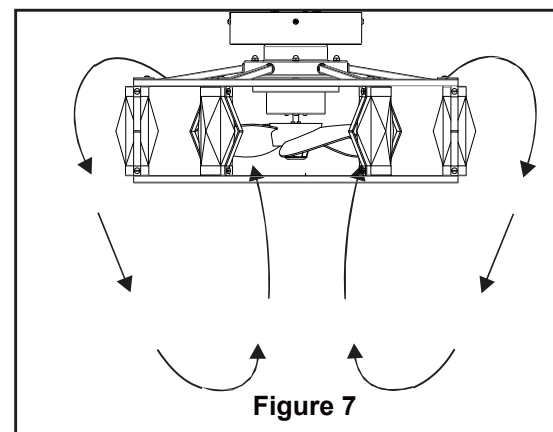

Figure 7
- ☐ Winter (Reverse): Upward airflow circulates warm air from the ceiling (Figure 7). This allows lower heater settings while maintaining comfort.